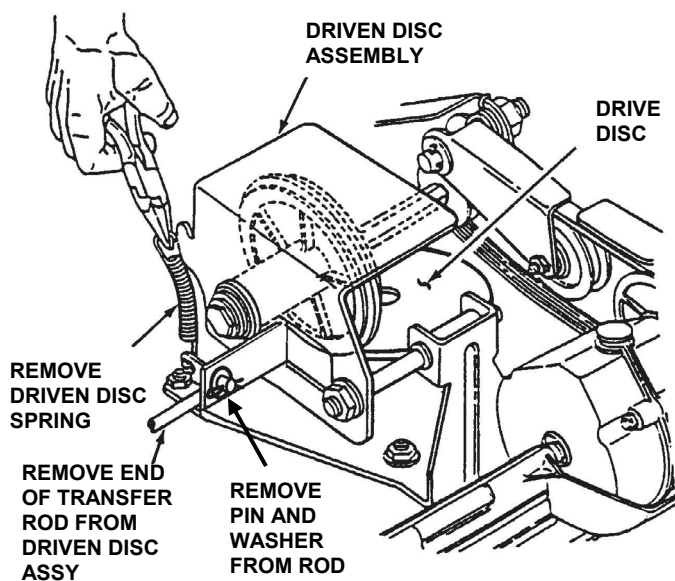

FIGURE 4.9
2. Remove driven disc spring from driven disc assembly. Also remove pin and washer from transfer rod, and remove end of transfer rod from hole in driven disc assembly. See Figure 4.9.
1. Remove pin and washer from transfer rod, and remove end of transfer rod from hole in driven disc assembly. See Figure 4.9.